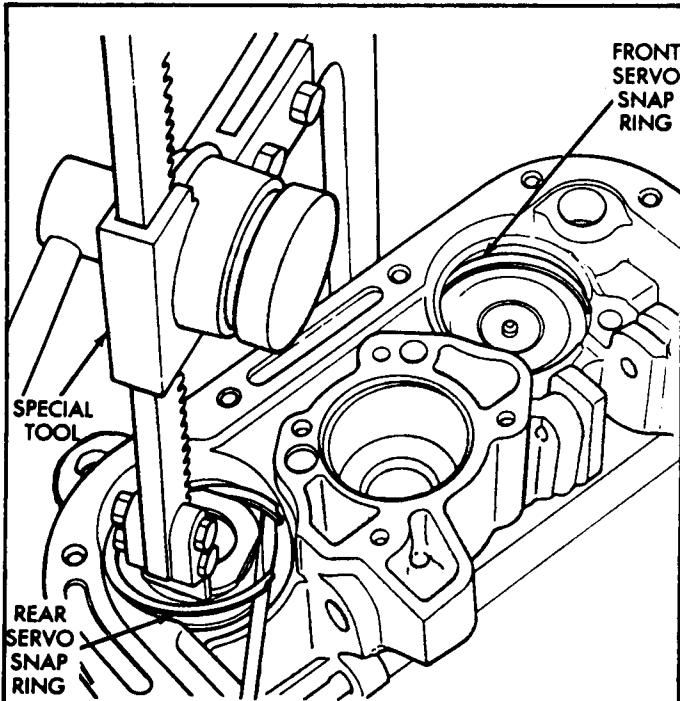

Figure 31
50. Compress the rear servo spring retainer about $1/16"$ with spring compressor, as shown in Figure 31, and remove the snap ring.